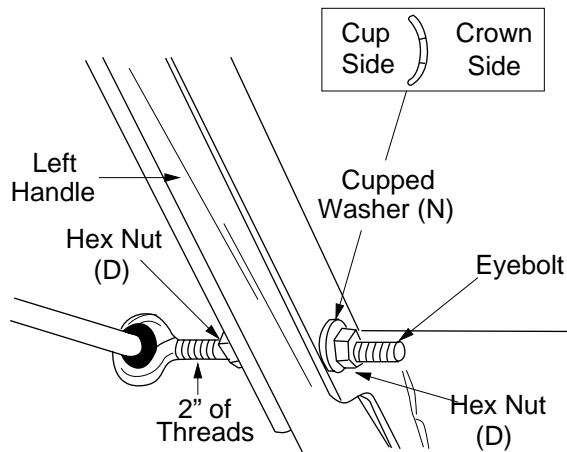

Figure 14
3. Thread one hex nut (D) onto the eyebolt on the chute crank assembly until there is at least two inches of threads showing between the nut and the head of the eyebolt. See Figure 14.
4. Place the eyebolt into the hole located half way up the left handle. Secure with cupped washer (N) (cupped side against the handle, see inset, Figure 14) and hex nut (D).